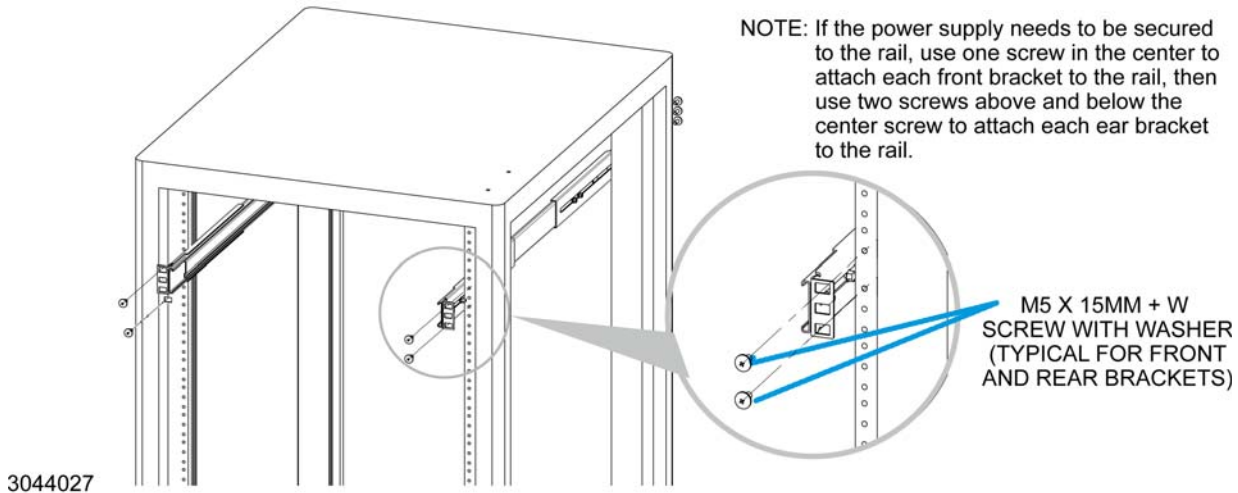

FIGURE 5. INSTALLING FRONT AND REAR BRACKETS ON CABINET RAILS
6. Attach front and rear brackets to the cabinet rails using M5 screws and plastic washers as shown in Figure 5. Adjust the front and rear brackets to accommodate the cabinet by loosening nuts securing the front and rear brackets to the cabinet section of the slide. Be sure nuts on front bracket do not obstruct rail. Once the two brackets are installed and adjusted, tighten M4 nuts (torque: 1.0 N-m, 8.8 lb-in). If the rail has square holes, M5 speed nuts are provided. If the rail does not have threaded holes, install the M5 speed nuts on the front and rear brackets, then install the bracket behind the rail.